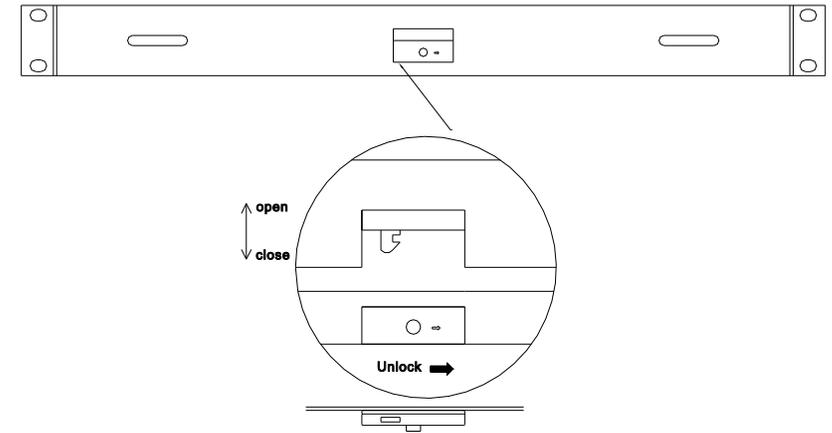

Fig.7
- * Release the front panel locker; (see fig.7)